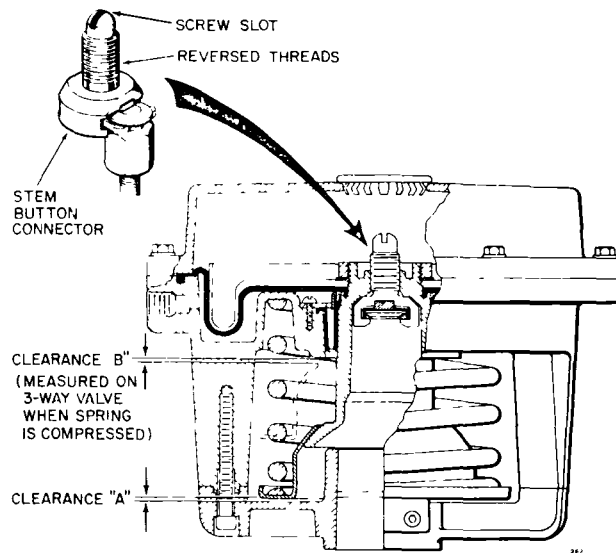

Fig 10 Details of MP953B or MP953D Operator Connected to Valve Stem
MOUNTING THE MP953B OR D OPERATOR (Refer to Fig 10)
- a On a straight-through valve, turn the screw until a clearance of approximately 1/8-inch (3 mm) exists between spring and operator spider. See Clearance "A", Fig 10
- b On a three-way valve, a clearance is required at both ends of the stroke to permit proper close off. See Clearance "A" and "B", Fig 10. Clearance should be the same on both ends of the spring. If there is no air on the operator, adjust the "A" clearance when air is available